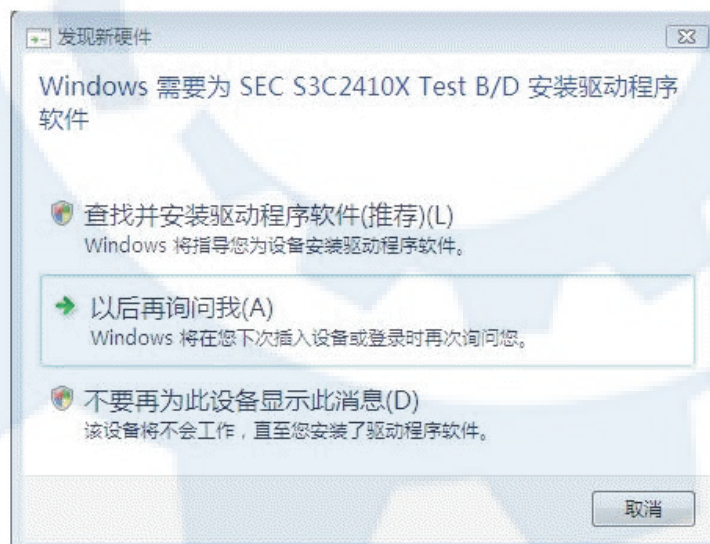

Figure 2-21: VISTA identifies the driver
- Connect the USB cable of the touch screen to the PC, and then a page as shown in Figure 2-21 will appear: